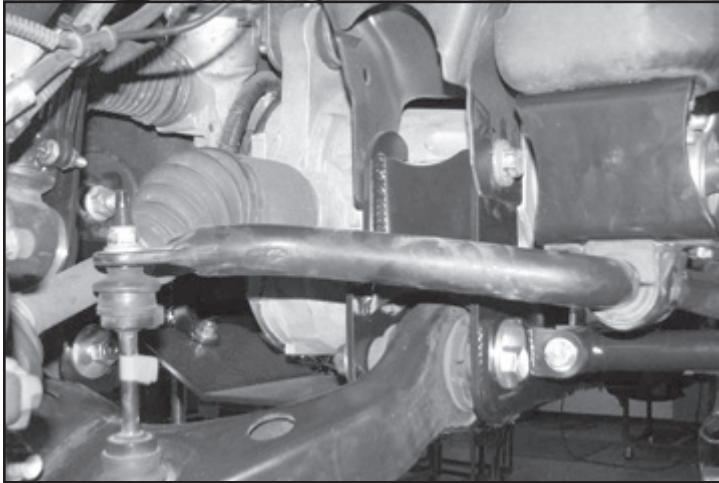

FIGURE 47 - STEP 50
50. Install the sway bar end to the factory lower control arm using the factory end links. **SEE FIGURE 47**